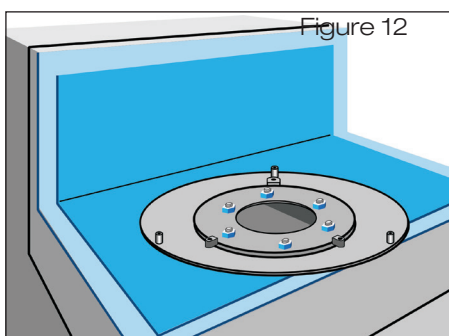
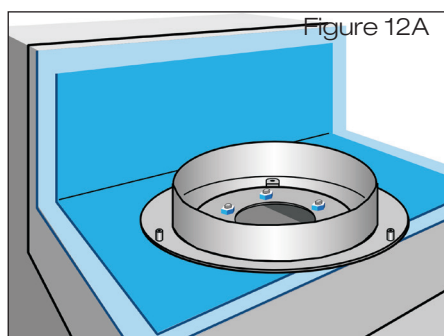

Figure 12
Figure 12A
- 3.4 Place the base plate on the roof sealing sheet. Clamp the roof sealing sheet with the base plate, loose flange and the screws provided (Fig. 12). In case of emergency drain, place weir on base plate (Fig. 12A). Tighten the enclosed screws using an AF 19 open-ended or ring spanner, working criss-cross. Tightening torque: 30 Nm. **According to the sealing regulations (flat roof regulations, edition October 2008), the nuts of the flange connections must be tightened 3 times.**